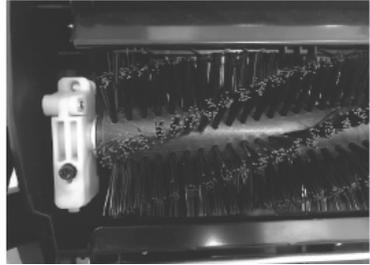

Fig.8
1. Screw out bolt 1 on the underside of the chassis (Fig.8)